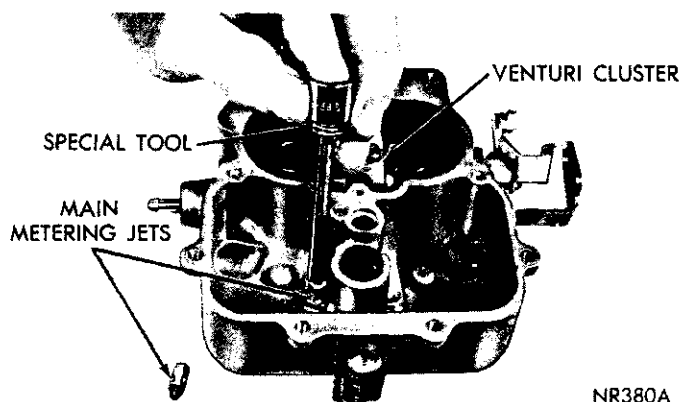

Fig. 5—Removing or Installing Main Metering Jets
(13) Remove main metering jets (Fig. 5).
(5) Install new gaskets on venturi cluster, and install in position in main body. Install cluster screws and tighten securely. Test pump discharge by pressing pump plunger down. Two fine streams of fuel should be forced from cluster. If either stream is restricted or diverted, remove cluster and reclean. After test, pour fuel from the bowl and remove pump plunger.
(6) Install main metering jets. Tighten securely. (Fig. 5).
(7) Before installing step-up piston, be sure step-up